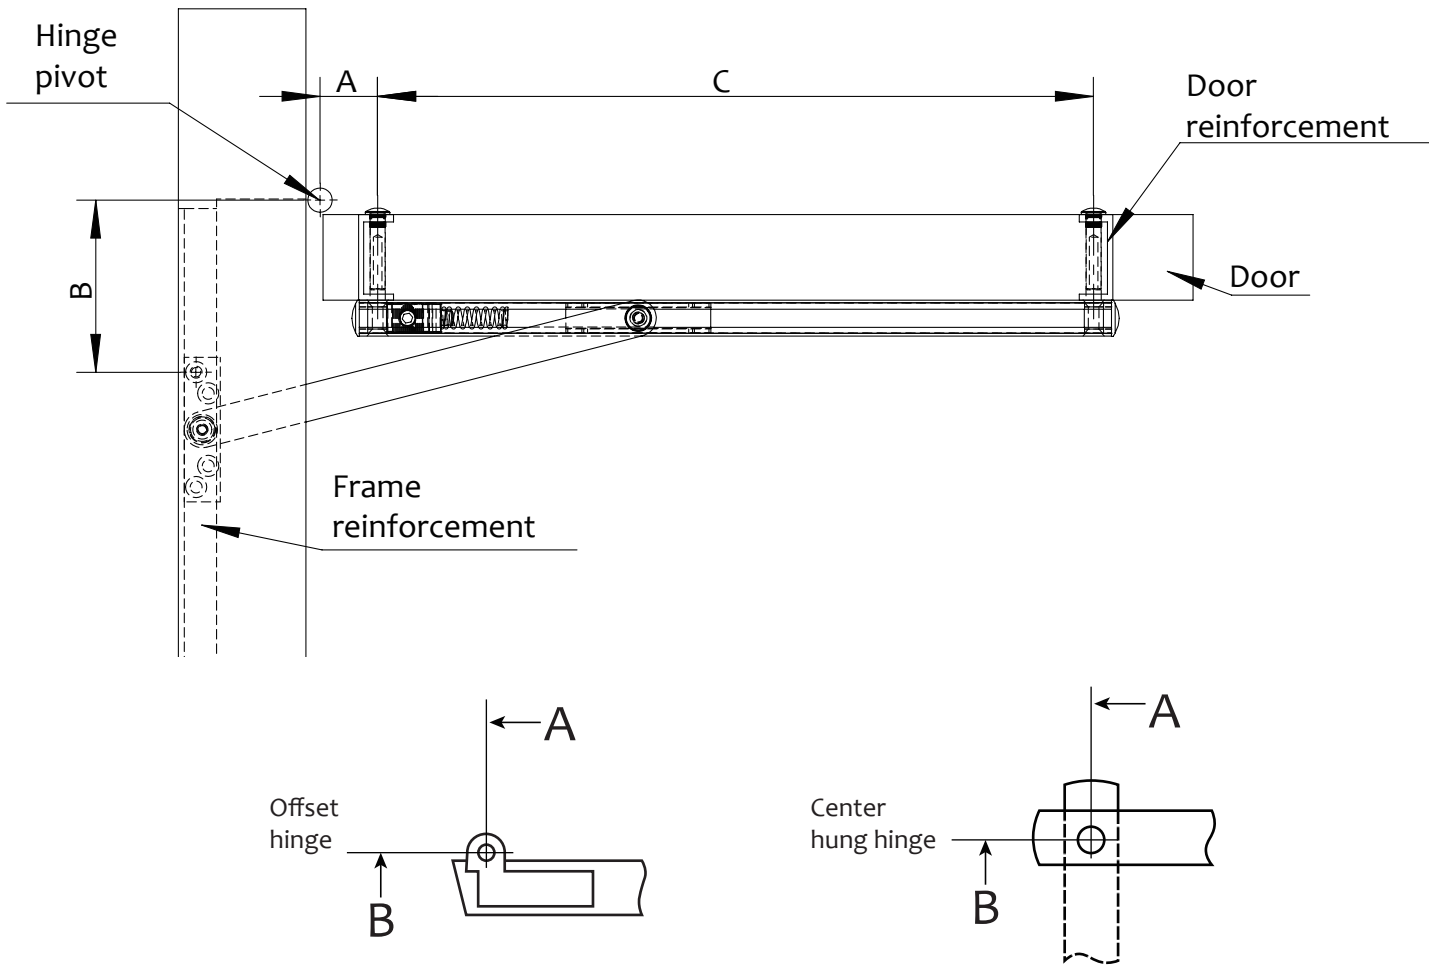

Figure 1 Installation diagram
- Select the correct dimensions from Figure 4 for Figure 1, according to the door opening and opening angle.
- Select dimension A and C, mark on the door for channel. (Figure 1)
- Select dimension B and mark on the door frame for jamb bracket. (Figure 1)
2. Drill and install channel (Figure 1)
- Install the jamb bracket on the door frame according to dimension B. (Figure 1, 2)
Note: The jamb bracket shall be reinforced with a backer plate not less than 3/16" thick and 12" long. (Figure 1)